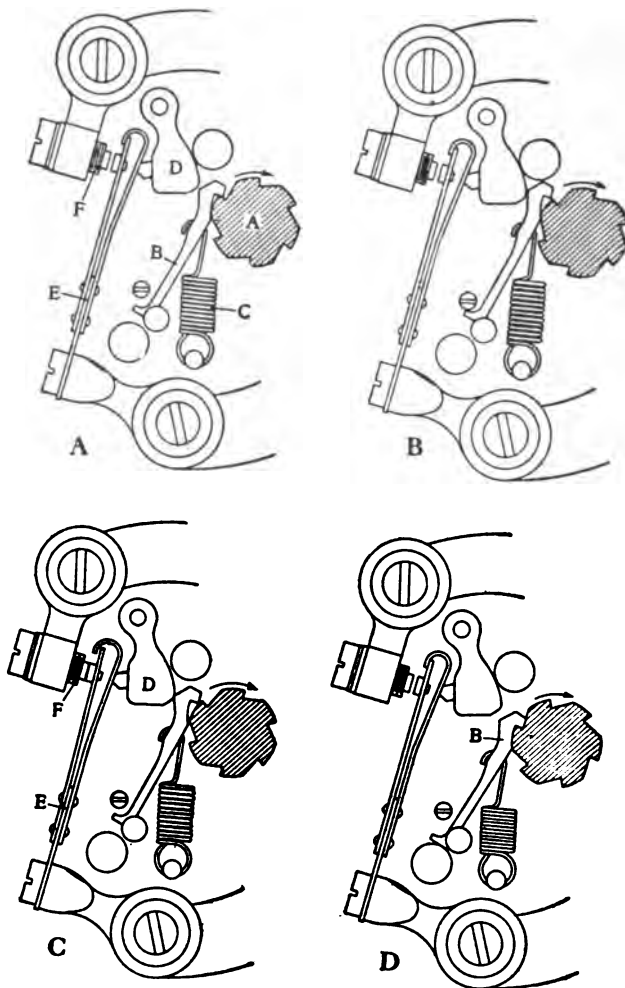

Fig. 120. Diagram Showing Operation of Atwater-Kent Interrupter
*Operation of "Unisparker".* The ratchet *A*, Fig. 120, has as many notches as there are cylinders to be fired. It is mounted on the central vertical shaft of the device which also carries a distributor, and in this combined form is known as a "Unisparker". On four-cycle engines it is driven at half crankshaft speed, and at crankshaft speed on two-cycle engines (motor boats). The ratchet *A* engages the lifter *B*, and, as *A* rotates, its teeth or notches successively tend to draw *B* with them, against the tension of the spring *C*. In doing
operation of the contacts as in the case of a magneto interrupter. *B*, *C*, and *D*, of Fig. 120, show the successive movements of the parts during a single phase. In *A*, a notch of the ratchet has engaged *B* and is drawing it against the tension of the spring *C*. In the second sketch *B*, the hook is released. In *C*, the lifter is riding back over the rounded portion of the ratchet and striking the hammer *D*, which in turn pushes *E* for a brief instant against *F*. The return of *B* to the position shown in sketch *D* is so rapid that the eye can not follow the movement of the parts *D* and *E*, which to all appearances remain stationary.